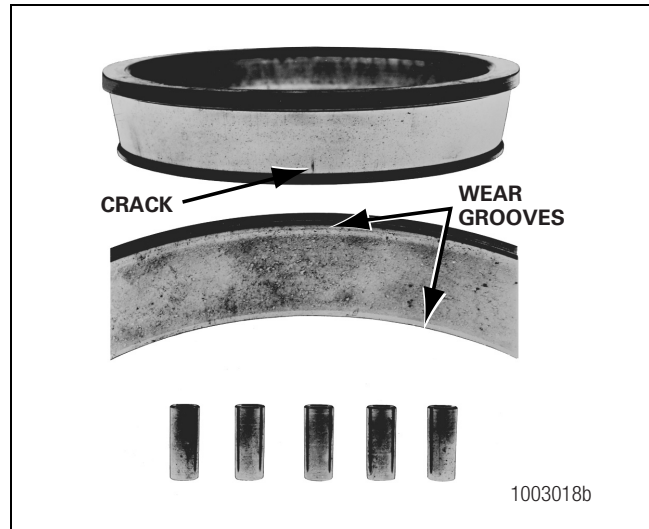

Figure 4.2
- There is a visible roller groove in the cup or cone inner race surfaces. Figure 4.2.
- There are deep cracks or breaks in the cup, cone inner race or roller surfaces. Figure 4.2.